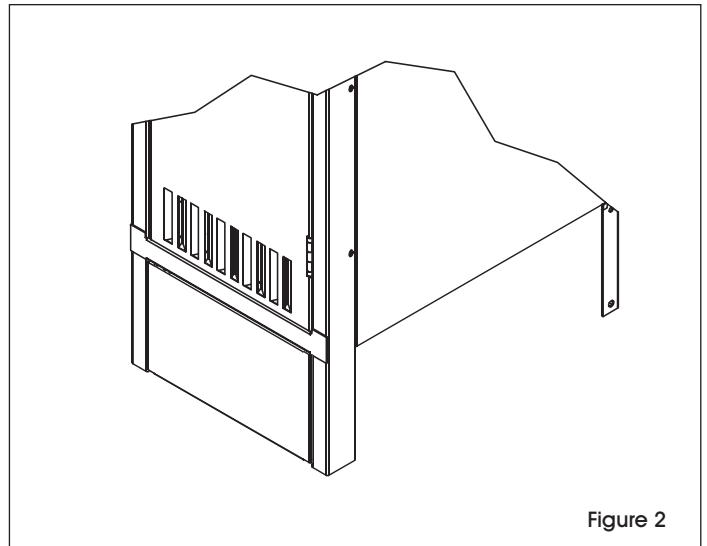

Figure 2
2. Base plate snaps securely into place. (See Figure 2)